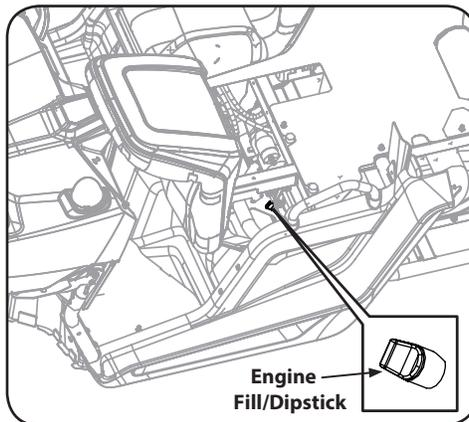

Figure 6-3
4. Refill the engine with new oil as instructed in the engine operator's manual. See Figure 6-3 for engine fill/dipstick location.